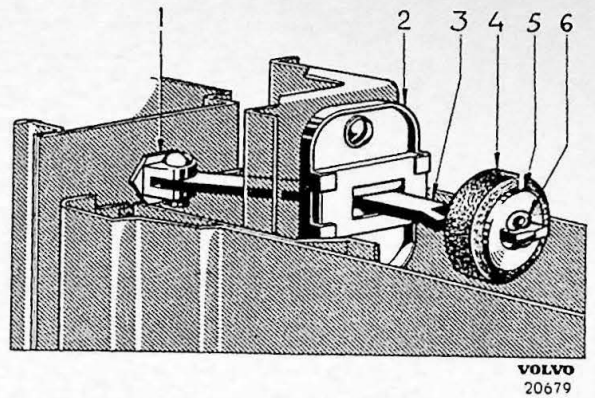

Fig. 16.
3. Remove the cotter pin (6), the washer (5) and the rubber buffer (4) on the door check as shown in Fig. 16.
3. Loosen the nut on the door check fork bolt (1, Fig. 16) and remove it together with the link (3).
4. Replace the ratchet (2) if necessary. It is attached by means of screws.